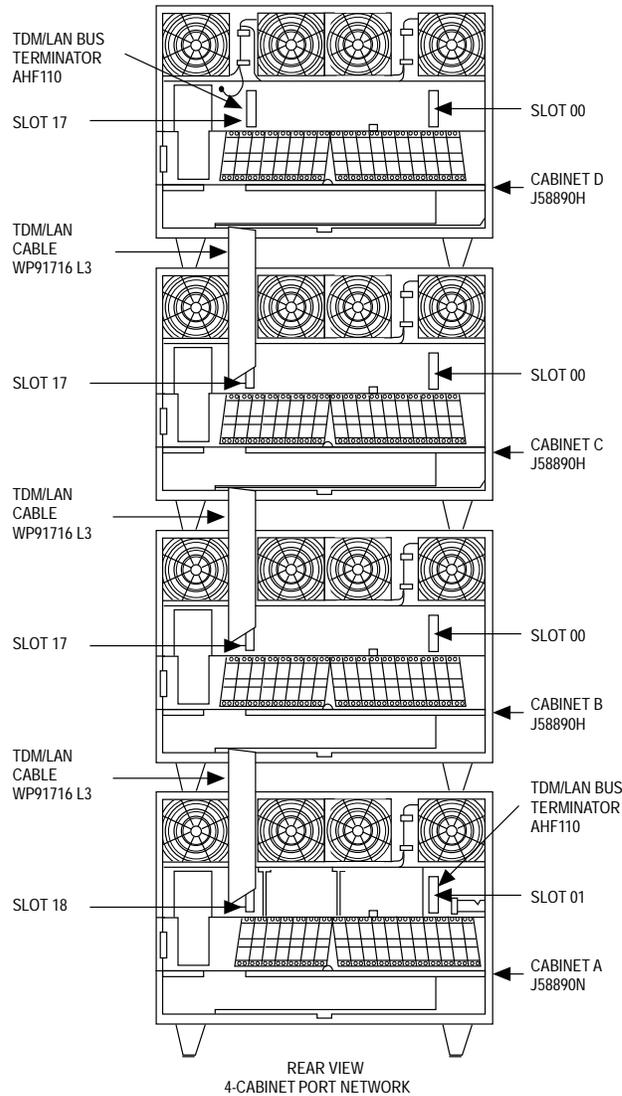

Figure 8-9. TDM/LAN Connections for G3i V4 EPN
1. Verify that the AHF110 TDM/LAN bus terminator is installed on the right side of the control cabinet looking from the back of the cabinet as shown in Figure 8-9.
1. Route and connect the TDM/LAN cables (see Figure 8-9). If any of the G2 port cabinets (being upgraded to G3i V4 cabinets) were originally R1V3 System 75 port cabinets, use the following steps to route a cable between an R1V3 upper cabinet and cabinet beneath it. Do not run a new cable through the existing slot in the rear shelf of the upper cabinet.